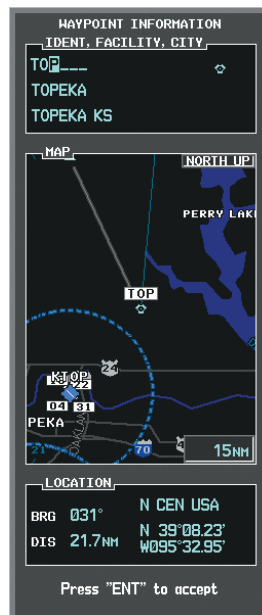

Figure 5-108 Entering V4 Entry Point
- c) Turn the small **FMS** Knob to display the Waypoint Information Window. Enter the desired entry point for V4, Topeka VOR (TOP), as shown in Figure 5-108.
e) With SLN still highlighted as in Figure 5-108, turn the small **FMS** Knob clockwise. The Waypoint Information Page is displayed and the **LD AIRWY** Softkey is now available.